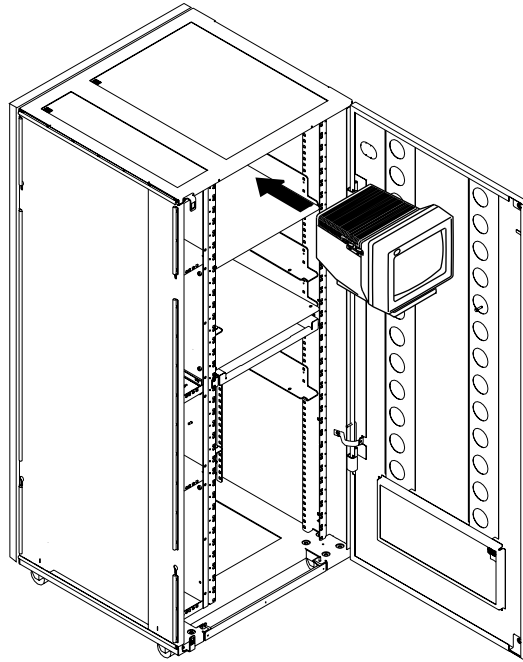

Figure 1-54. Installing the Display Screen in the Controller Expansion (Front Side)
6. ____ Slide the display screen on the top of the controller expansion (refer to Figure 1-54 on page 1-51).